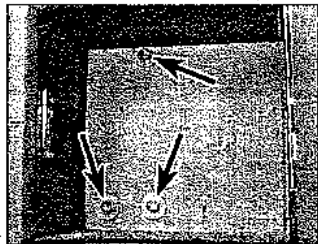

Fig. 13.67 Remove the cubby box retaining bolts (arrowed) (Sec 9B)
- 5 Peel back the base cover in the cubby box to expose its retaining bolts. Undo the bolts and lift the box clear (Fig. 13.67).